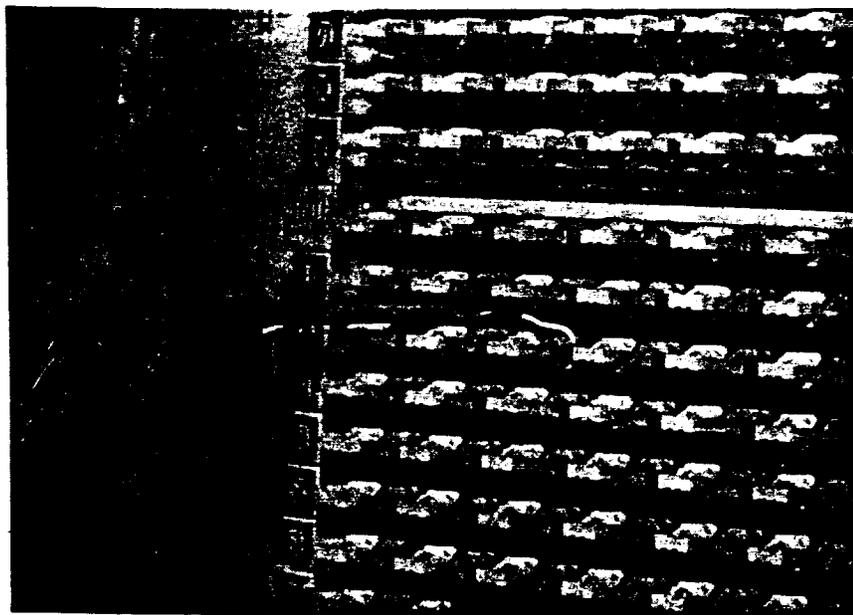

Figure 18. Dressing Cross-Connecting Wire
5.03 Dress the cross-connecting wire as follows (Figure 18):